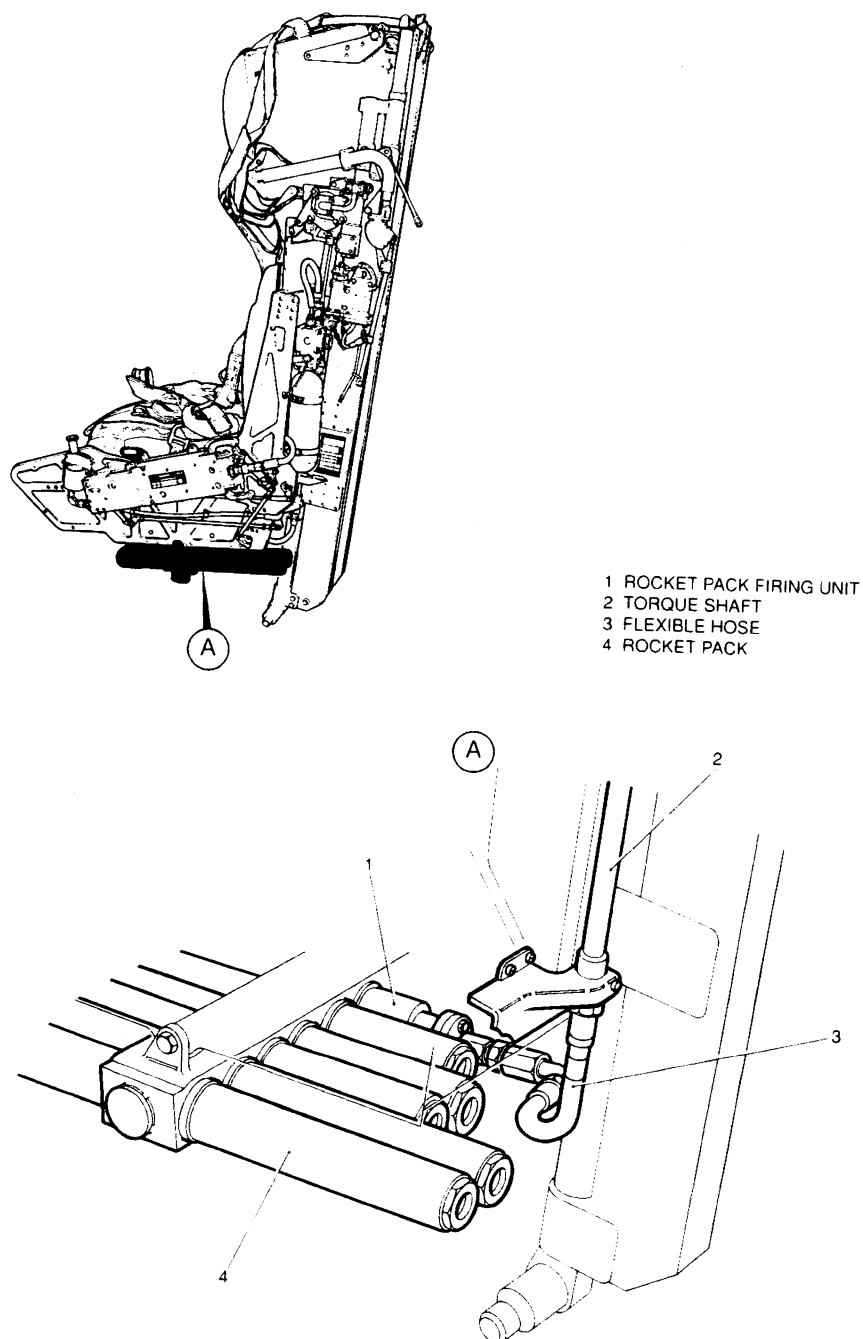

Fig. 4. Flexible hose route
- (iii) Insert the mounting bolts and ensure flexible hose routed correctly (Fig. 4)